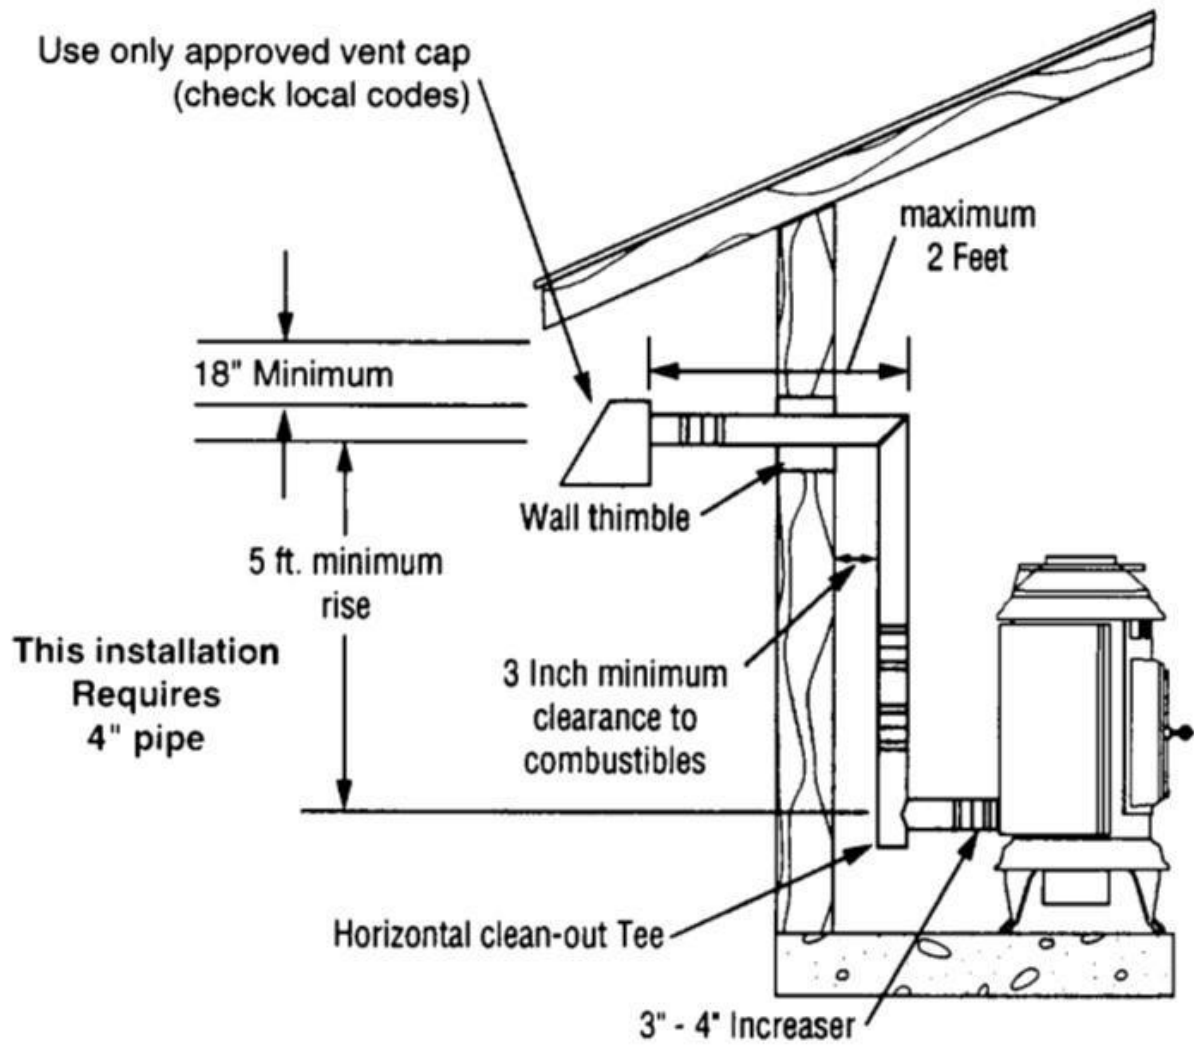

FIGURE 6
7. Installation per **FIGURE 6** requires 4" Type L pipe with a minimum 5 foot vertical rise with a square horizontal cap.